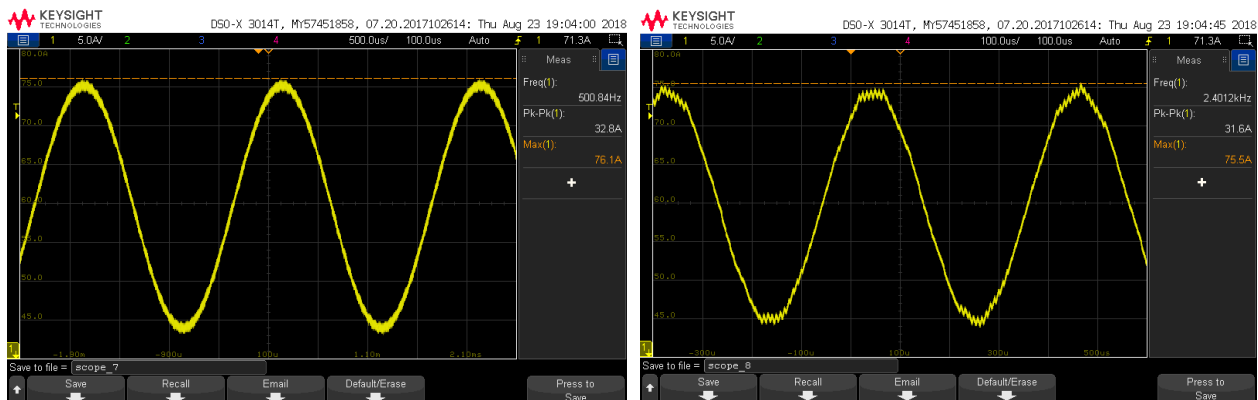

Figure 1: Sinus signal quality @ 500 Hz (left) and 2.4 kHz (right) with 30 App,ac on top of 60 A,dc
**Note:** This option is not available for cell testers with 100 A output current. Keysight advises that the quality of the sinusoidal signal decreases with increasing frequency, as shown in Figure 1.